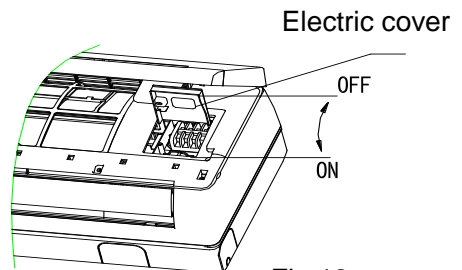

Fig.12
- Loose the screw at connection lid. (Fig.12)